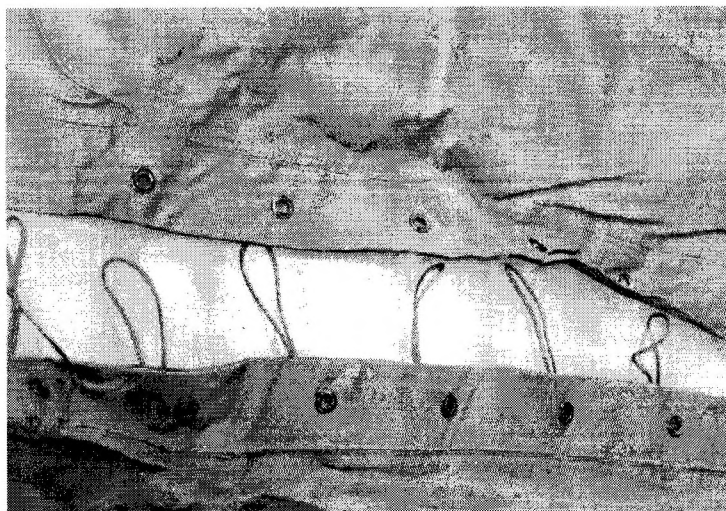
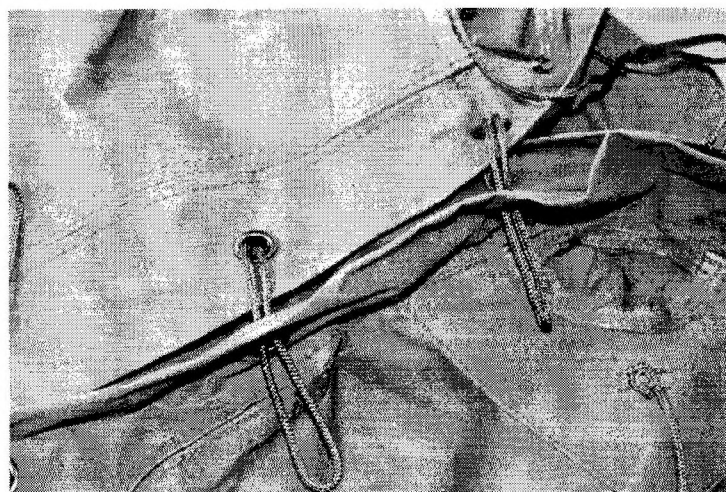
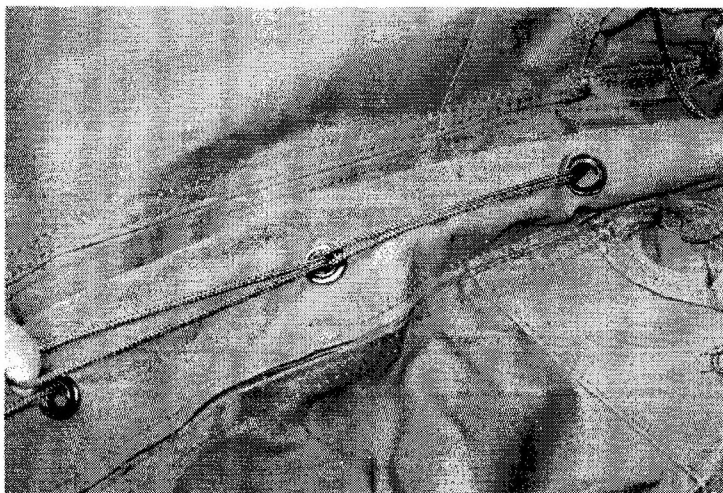

Figure 27: Lacing cover sections (1)
Figure 28: Lacing cover sections (2)
Figure 30: Lacing cover sections (4)
18. With the MK4 shelter system there are options for assembly. The tent can be erected using keder rails or laced together as detailed in Fig 27 to 34. If the tent is being erected using a combination of MK 4 and earlier cotton canvas panels then you can utilise a combination of the two or just dutch lacing.
35. The dutch lacing is installed by aligning the eyelets as detailed in Fig 27. Then passing the loops through the eyelets Fig 28. The top loop is then looped over the next loop down Fig 30. Finally the bottom loop is secured by a toggle or tie Fig 34.